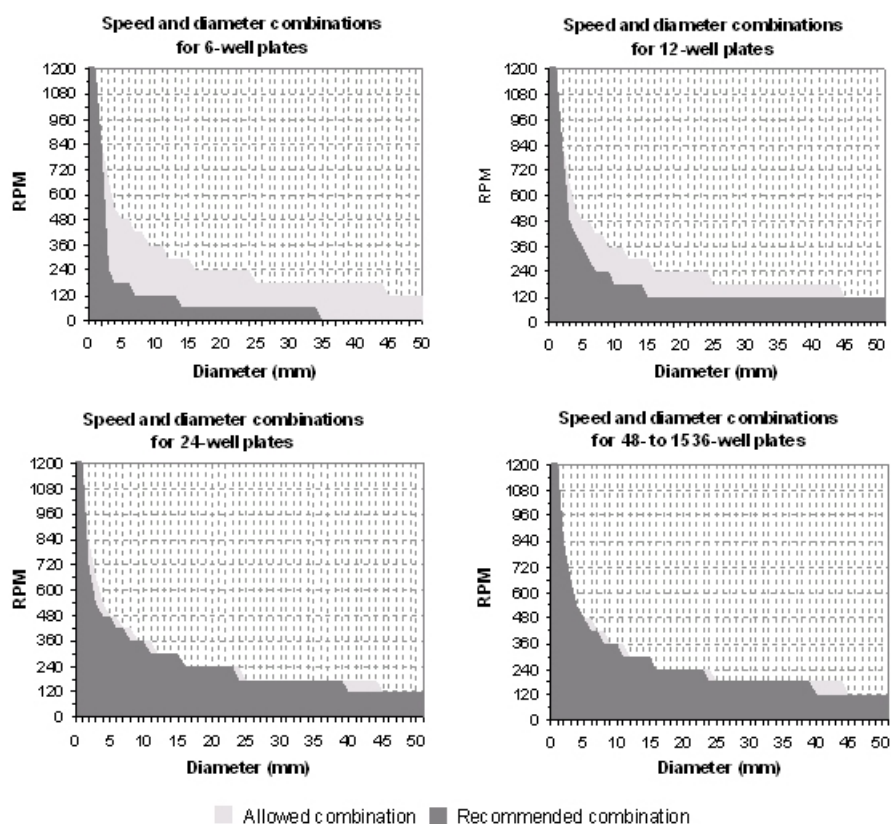

Figure 7-7. Recommended shaking speed and diameter combinations
**Caution** Certain speed and diameter combinations that are allowed by the software can cause spilling from the wells with some plate types. With large wells (6-, 12- and 24-well plates), it is recommended to use lower diameter and speed combinations than are accepted by the software. See Figure 7-7 for recommended maximum speed and diameter combinations. The usable combinations are dependent on the volume used in the wells and on the viscosity of the liquid inside the wells.